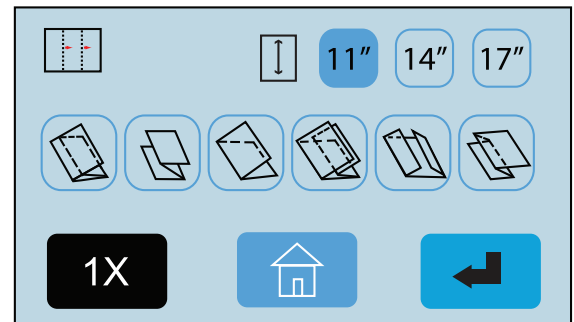

Fig. 40
3. From the Standard Fold Override Screen select the paper size and fold type that you would like to override (Fig. 40). Then press the enter  icon.